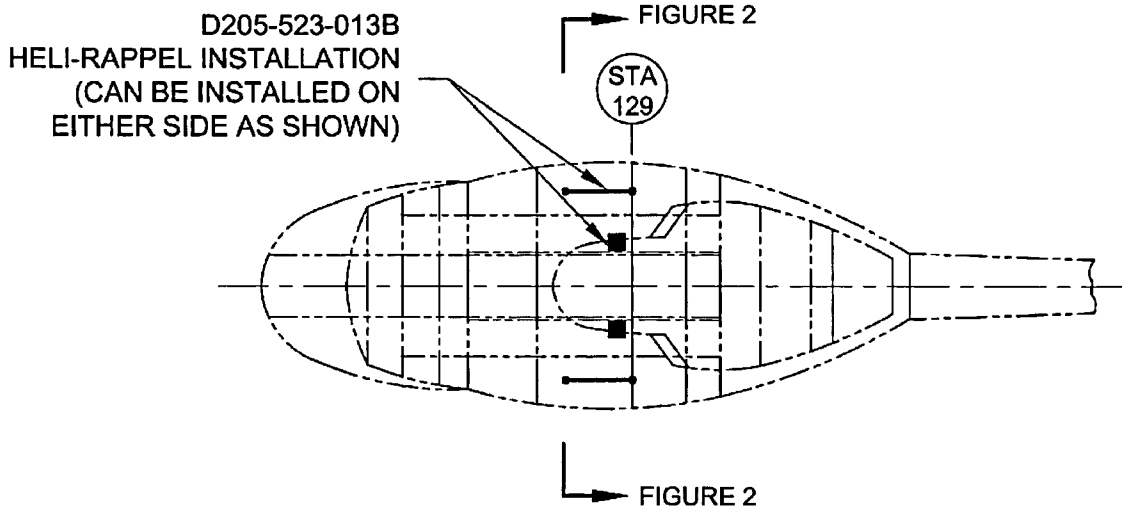

FIGURE 1: Location of the D205-523-013B Heli-Rappel Installation
- 2.2 Position the D3011-1B Rappel Slide Bar per Figure 1 and 2 of this DSI.